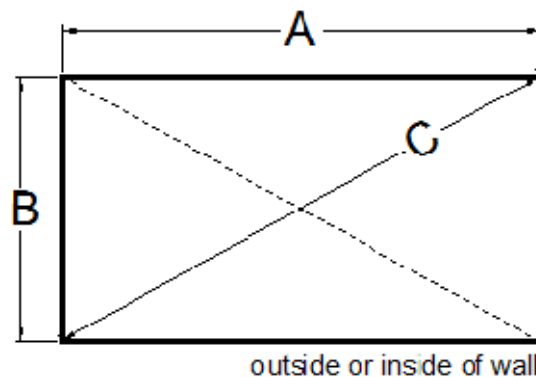

Figure 5: Sketch to illustrate one method of ensuring your walls are square.
- 1) Both diagonals should be the same length if the building is a true rectangle or square. Or, if you refer to Figure 5, the following formulas apply: